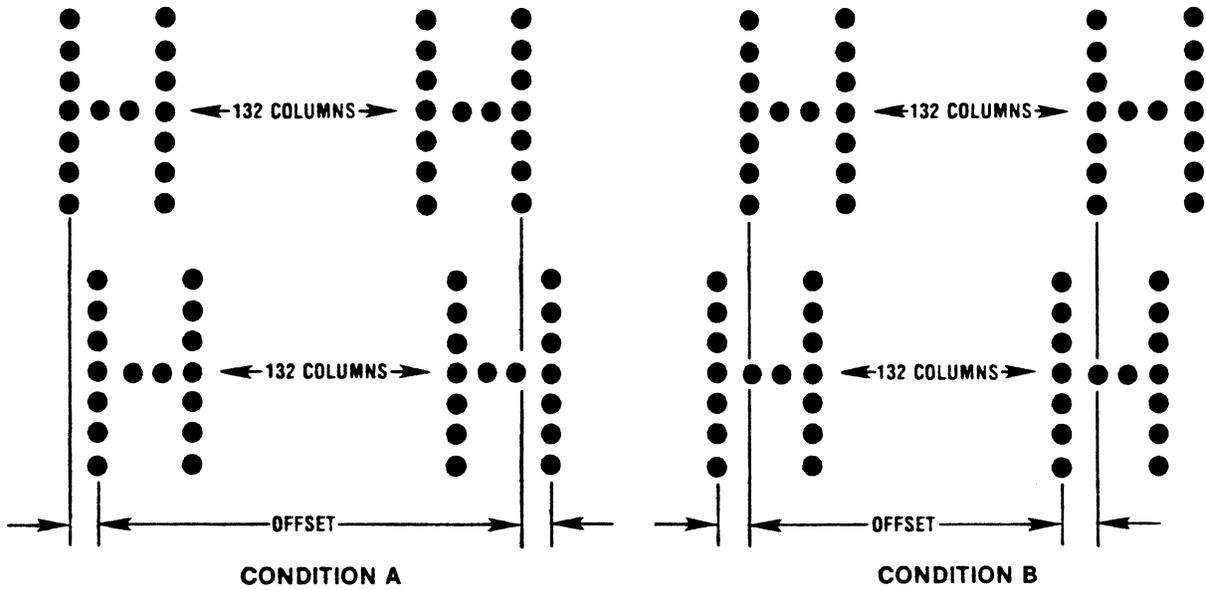

Figure 4-8. HORIZONTAL OFFSET PRINT SAMPLE
The Print Controller pcb contains a 5-position dip switch for the horizontal offset adjustment. This procedure adjusts the print position left or right so that the printed character columns are vertically aligned. To adjust the horizontal offset refer to Figure 4-8 and Tables 4-1 and 4-2 and perform the following steps.
7. If printed text is offset as in condition A, close switch #5 (Figure 4-8) which moves the print position to the left.
9. If the printed text is offset as in condition B, open switch #5 (Figure 4-8) which moves the print position to the right.